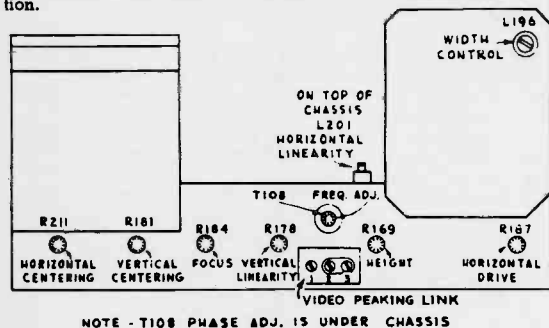

Figure 6—Rear Chassis Adjustments
**FOCUS COIL ADJUSTMENTS**—Turn the centering controls R181 and R211 to mid position. See Figure 6 for location of these rear apron controls.
**WIDTH AND HORIZONTAL LINEARITY ADJUSTMENTS**—Turn the horizontal drive (R187 on rear apron) clockwise as far as possible without causing crowding of the right of the picture. This position provides maximum high voltage to the kinescope second anode. Adjust the width control (L196 on rear chassis) until the picture just fills the mask horizontally (8 1/2 inches). Adjust the horizontal linearity control L201 (see Figure 6) until the test pattern is symmetrical left to right. A slight readjustment of the horizontal drive control may be necessary when the linearity control is used. Adjust horizontal centering to align the picture with the mask.
**VIDEO PEAKING LINK**—A video peaking link is provided (see Figure 6) to permit changing the video response. If the pictures from the majority of stations look better with the link closed, (2-3 position) then the link should be placed in that position. However, if transients are produced on high contrast pictures then the link should be left open (1-2 position).